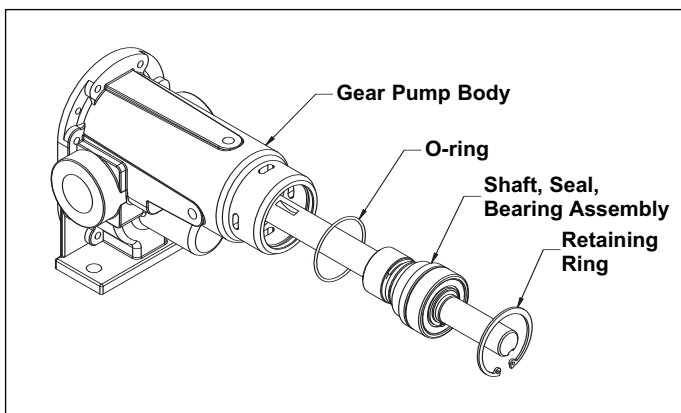
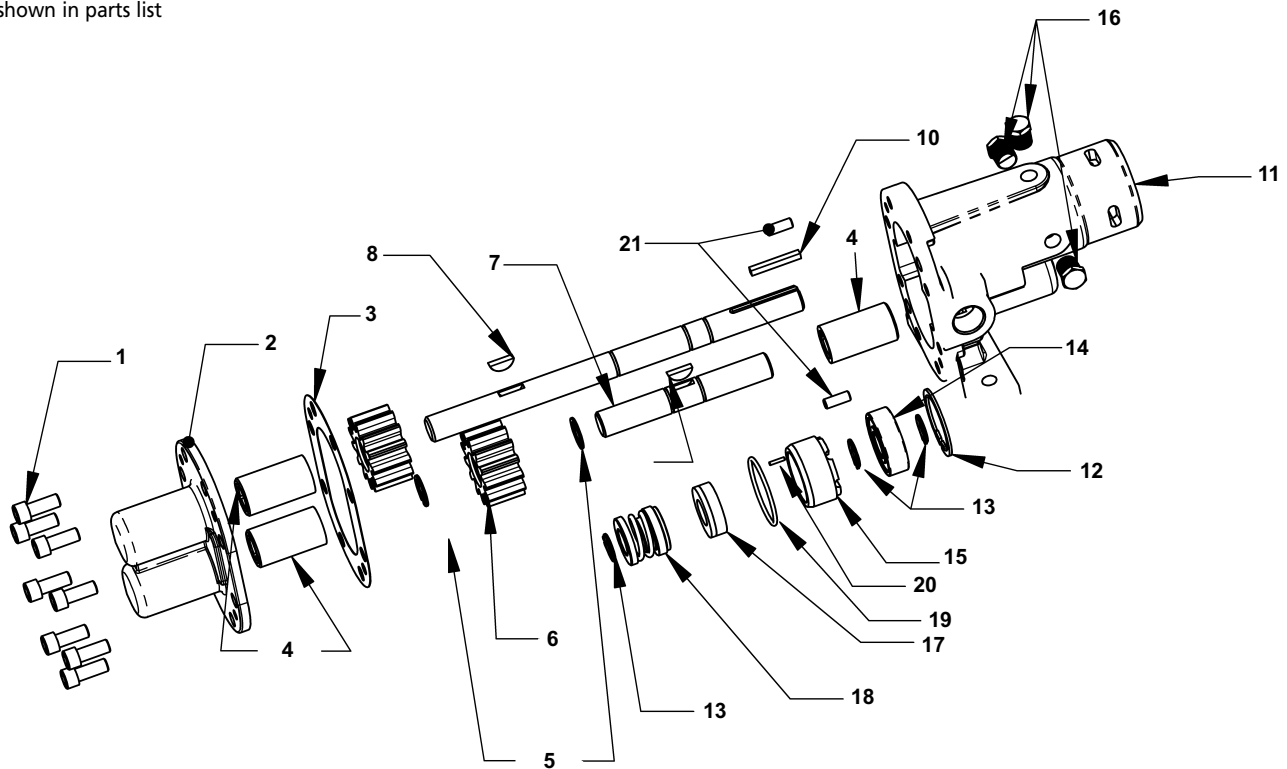

Figure 6 - Shaft, Seal and Bearing Assembly
Figure 11 – Repair Parts Illustration
(Refer to Figure 11 for Reference Numbers and Figures 6, 7, 8 & 9 for detailed seal and shaft assemblies.)
2. From the drive shaft end of the gear pump, remove the internal snap ring (Ref. No. 12) from the body (Ref. No. 11). The drive assembly, which consists of the drive shaft (Ref. No. 9), seal assembly (Ref. Nos. 17 & 18), seat retainer (Ref. No. 15), bearing (Ref. No. 14) and retaining rings (Ref. No. 13), can now be removed from the unit (See Figure 6). Also remove the internal o-ring (Ref. No. 19) from the body.
- e. Slide the seal retainer and bearing onto the drive shaft and install retaining ring, holding the bearing and seal onto the shaft (See Figures 6 and 7).
- f. Slide the drive shaft assembly (Ref. Nos. 9, 13, 14, 15, 17 & 18) into the gear pump and secure with the internal retaining ring (Ref. No. 12). (Also see Figure 6.)